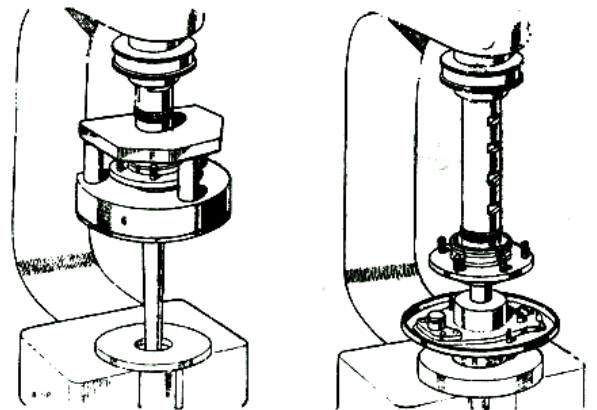

Fig. E-1—Stripping and assembling half-shaft.
1. Stand the axle shaft on its splined end and press down squarely on the brake anchor plate and bearing housing flange, using the special annular press block, Part No. 242415 (Fig. E-1). A pressure of up to 20 tons will be required, and it may be necessary to assist the operation with sharp blows on the bearing housing, using a brass drift. Remove the collar.
6. Place the securing collar over the axle shaft with the chamfer towards the splined end and press it on until it abuts the bearing. A pressure of at least $2\frac{1}{2}$ tons will be required for this operation, as a suitable collar, with an interference fit of .0028 in. (0,07 mm) on the shaft, must be chosen by selective assembly. A suitable press block (Part No. 262757) is illustrated at Fig. E-1.